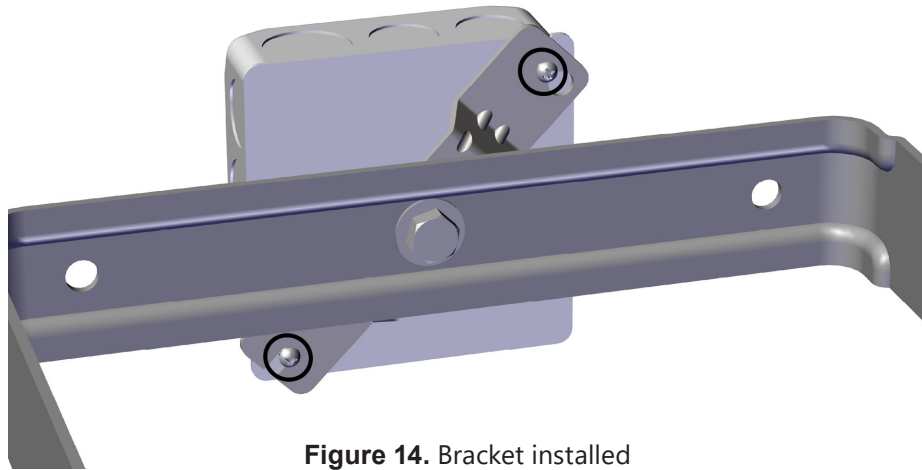

Figure 14. Bracket installed
6. Rotate the bracket down to fully capture the screw (circled) in Figure 14.